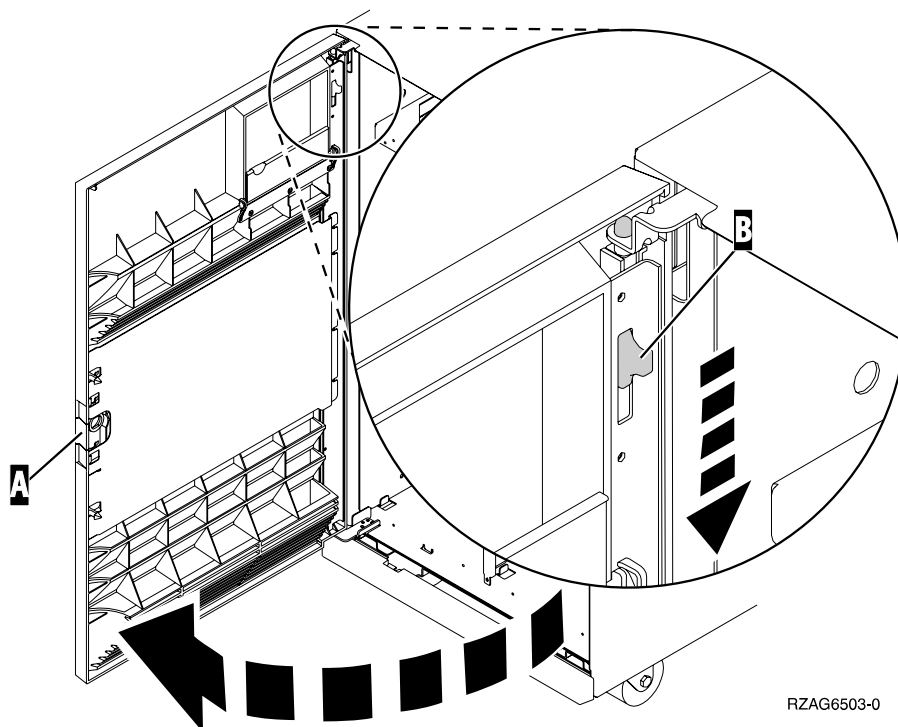
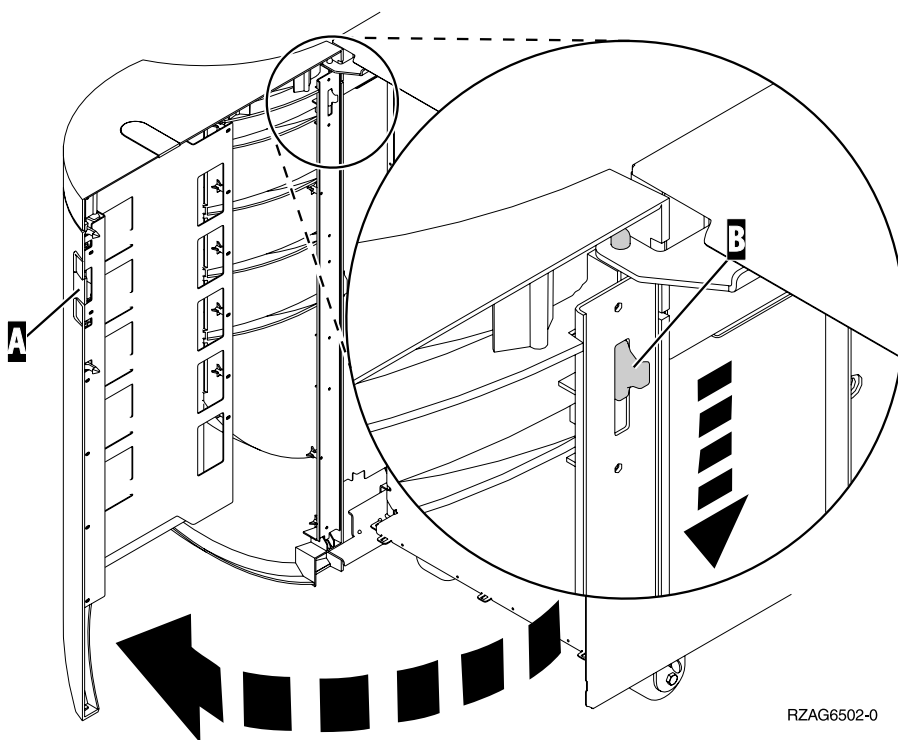

Figure 92. Front Cover - Removal
Figure 93. Rear Cover - Removal
- b. Tilt the top of the cover away from the tower and lift the cover off. See Figure 92 and Figure 93.